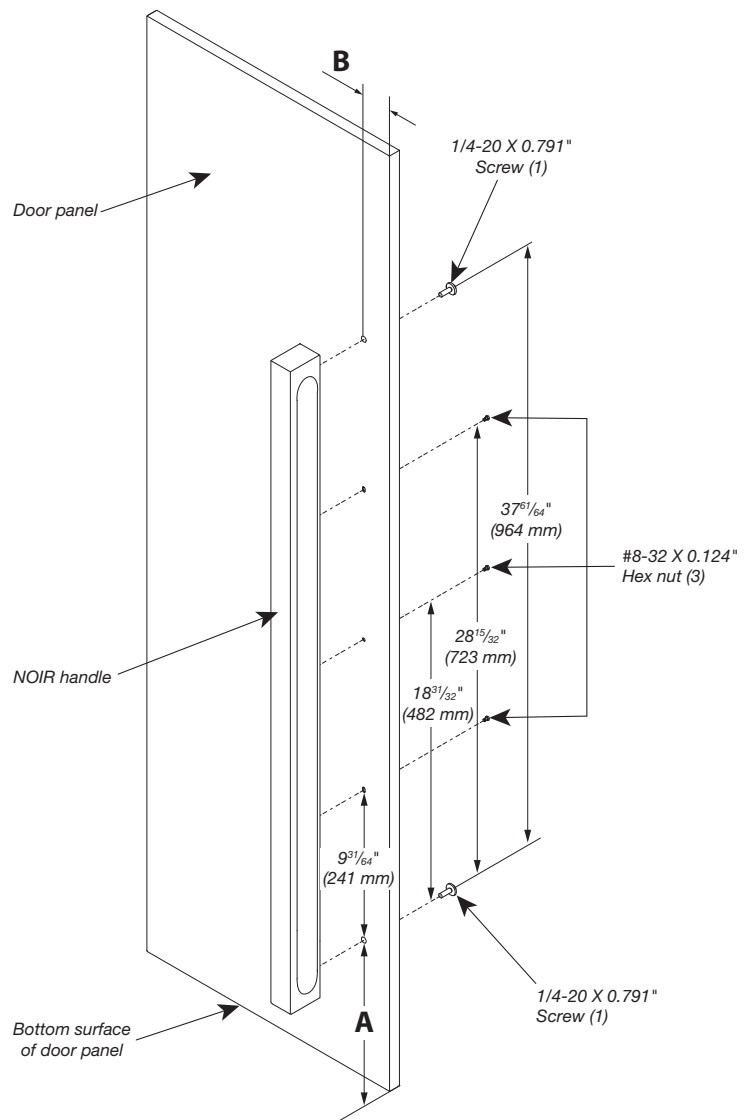

Figure 1 - Refrigerator/freezer door
- For model specific hole locations and the spacing requirements of NOIR handle mounting, refer Figure 1 and Table 1.
NOTE: Figure 1 represents a Side by Side (left) freezer panel, a French door (left) refrigerator panel, a bottom mount left swing refrigerator panel, and column refrigerator/freezer panel. Mirror the hole pattern on the opposite door panel as required.
1. Measure 'A' from the bottom of the panel, measure 'B' from side of panel. Mark the hole locations as shown in Figure 1. Refer to Table 1 for 'A' and 'B' dimension based on the panel configuration.